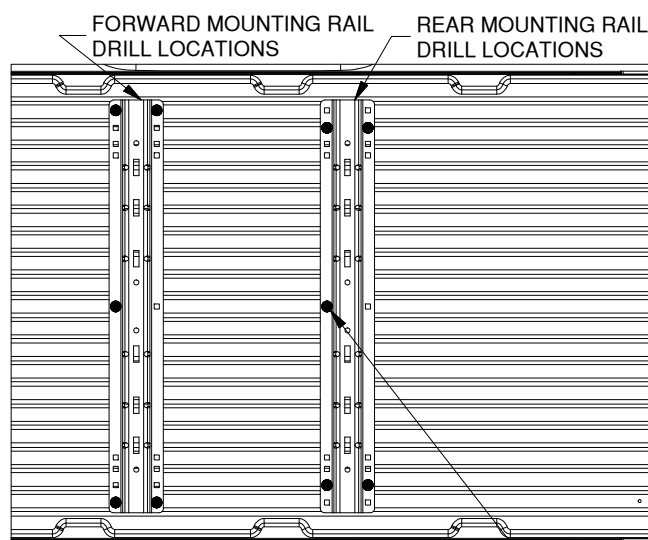

Figure A2: Detail view over bed, showing drill locations for the forward and rear bed rails.
- 2. Mark hole locations:** While carefully ensuring the mounting rail does not move, use a center punch tool to mark the 5 drill locations on the rear rail. See figure A2 for hole marking locations for this installation (forward rails will install on a later step). Once all 5 rear rail locations are clearly marked, move the bed rail out of the way and drill each location with an 1/8" drill.
- 3. Drill forward mounting holes.** Using the same methods as used for the rear mounting rail, mark, drill, check, and enlarge the holes for the forward mounting rail. Refer to "DRILL REAR MOUNTING HOLES" section, steps 2 through 4, on a previous page. Notice that the hole locations are slightly different than the rear rail, see figure A2 (on the second page).